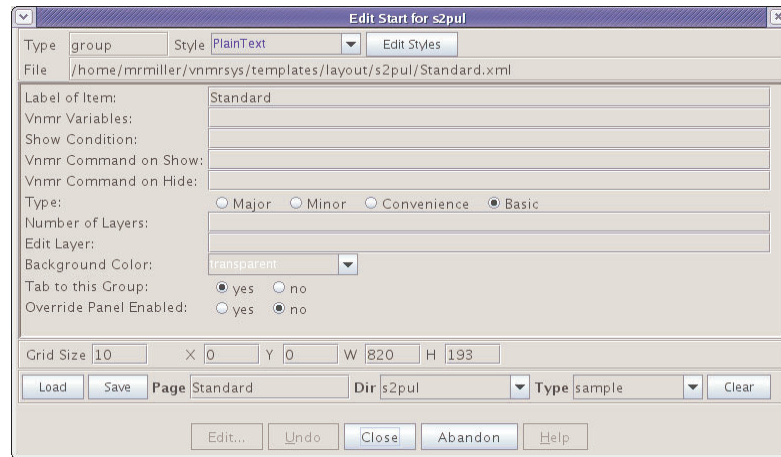

Figure 7. Panel Editor Window
2. Select **Parameter Pages...** to display the panel editor window, see **Figure 7**.
1. Enter a **new value** in the field next to Grid Size, see Figure 7.